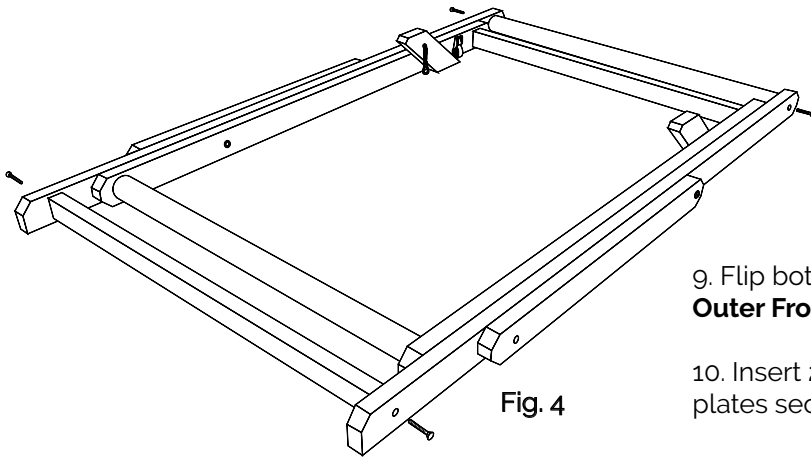

Fig. 4
9. Flip both **Props H** to face in the opposite direction and position **Outer Front Brace B** and **Top Pole E** as shown in **Fig 4.**